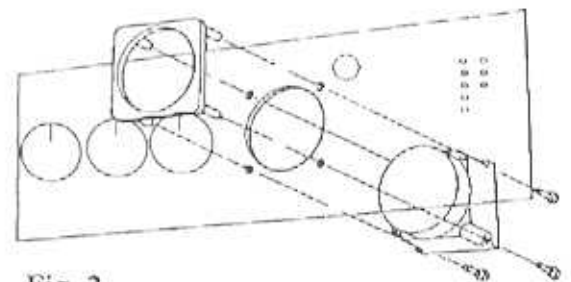

Fig. 2
Insert the clock into the aperture from the back of the control panel. Push the mounting bezel (2) through the front panel and secure to the clock using the four screws provided. (See fig.2)